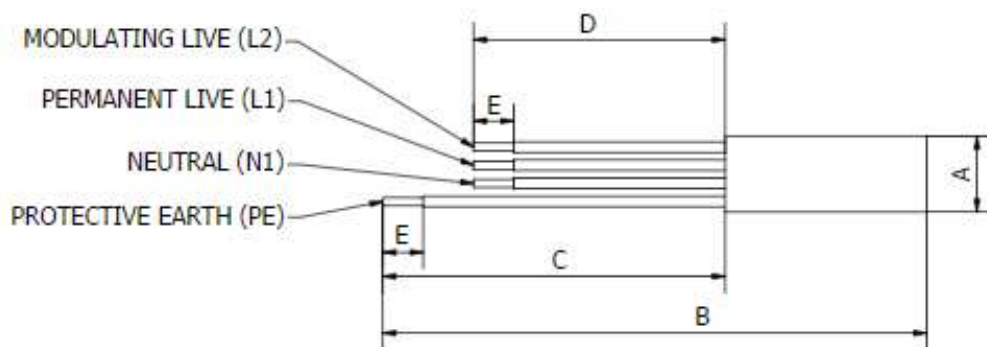

Figure 10: Wire length preparation diagram
- The mains power cable to the Sunamp Controller should be a minimum of 2.5mm², 4 core H05 VV-F sheathed cable, to BS 6500. This cable must be prepared according to Figure 10 (below), where the Green/ Yellow (Protective Earth) cable is 15 mm longer than the Brown (Permanent Live), Black (Modulating Live) and Blue/ Grey (Neutral). Please note that Figure 10, only relates for the Heat Battery terminal connections for information on the Solar Power Diverter connection, please refer to (Section 3.9).
- Prepare if necessary and wire the mains power cable in the following Heat Battery terminals (Figure 10 & 13.3):
- Prepare if necessary and wire the mains power cable in the following terminals (Figure 10 & 14.2):